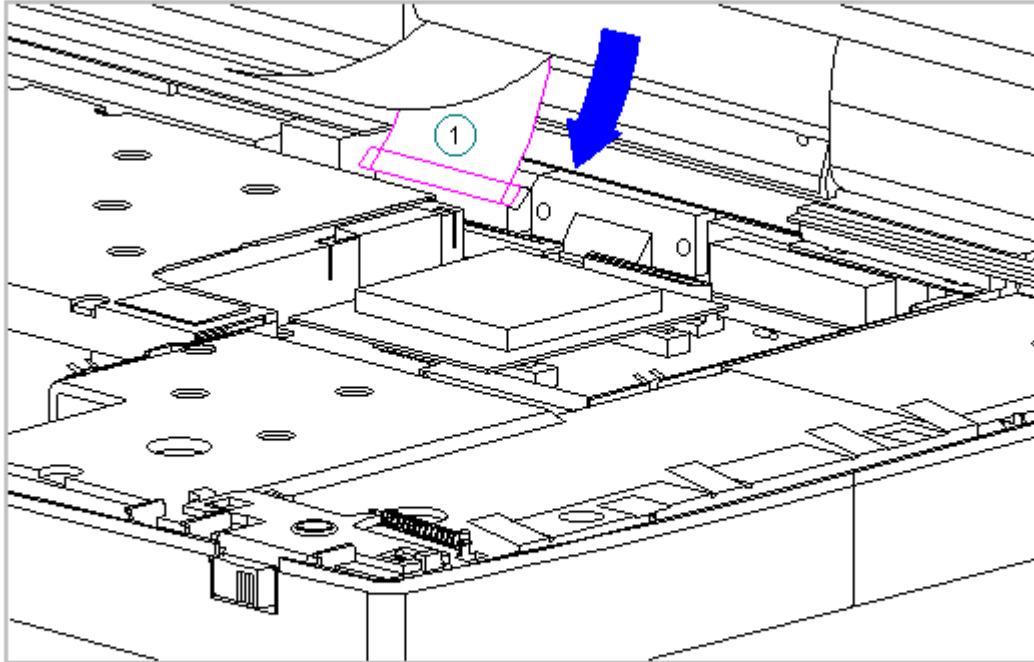

Figure 3-99. Connecting the Display Ground Cable (Models 400 and 410)
10. Connect the display ground cable [1] to the LIF clip above the serial port connector (Figure 3-99).
11. Carefully insert the end of the display ground cable into the ZIF connector slide on the system board (Figure 3-99).